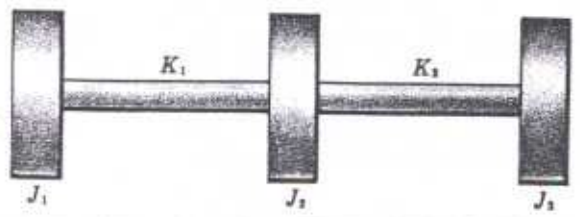

FIG. 2
6. a) Determine the three natural frequencies for torsional vibration of the degenerate system shown in Fig. 2 with the help of the Holzer's Tabulation method.